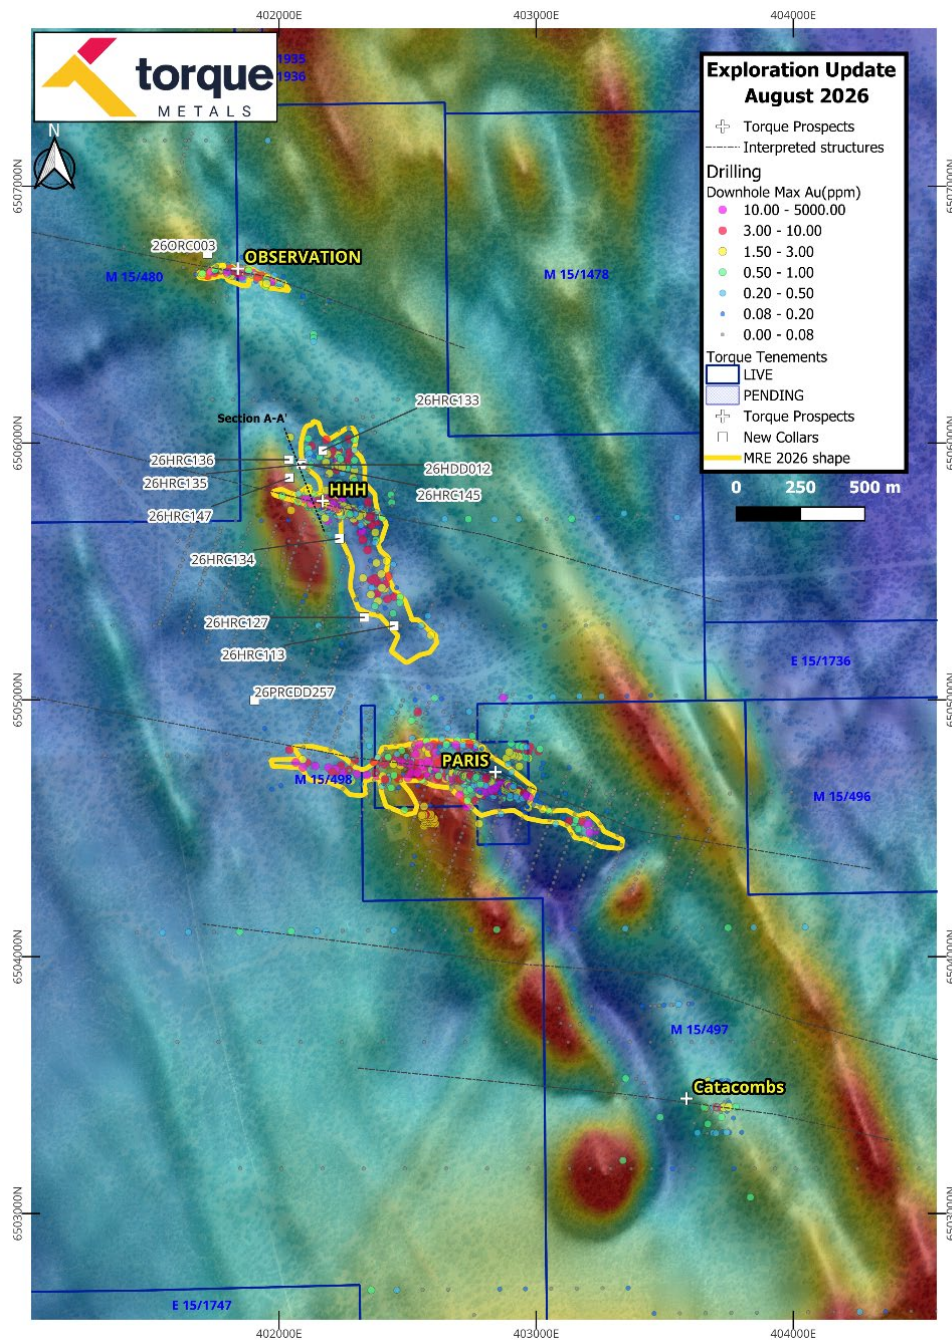

Figure 3: Plan view of the Paris Corridor and new drill-hole locations for this announcement with the regional magnetics.
- **7.9m @ 1.37g/t Au** from 146.2m (26HDD012) – indicating that potentially the same structure intersected in 26HRC135 continues in a very oblique plane to the drill direction of both 26HRC135 and 26HDD012. Figure 3 shows the current interpretation of these intersections.
Hole **26HRC135** was the standout, returning an exceptional grade intercept of **11.0m @ 456.00 g/t Au** from 122m, of which the highest concentration of visible gold ("nuggets"), was observed within the first three metres of this outstanding intersection. This result appears to coincide with the drillhole hitting the potential intersection point between two mineralised structures (flat and steep) as seen in Figure 3 below.
- The follow-up diamond hole **26HDD012**, drilled approximately 3m from 26HRC135, supports the potential down-dip extension of the high-grade mineralised structure (Figure 3). The intersection, **7.9m @ 1.37 g/t Au**, is currently interpreted to represent a fringe or local pinch point of the sub vertical mineralised structure and supports further follow-up drilling along dip and strike to test the continuity of the potential localised high-grade mineralised domain.
Additionally, hole **26HRC135** intersected multiple mineralised shear zones as shown in Figure 3, with **2.0m @ 8.06 g/t Au intersected at 282m down-hole**. This intercept aligns with the main HHH west-plunging structure and previously modelled DHEM plates.